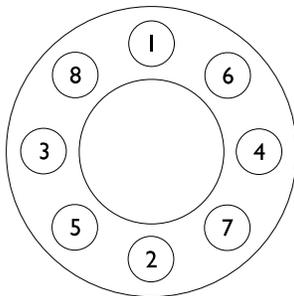

Figure 17
5. Tighten the set screws in the star pattern shown in Figure 17 to 15 in/lbs or so that they are all hand tight against the washer.